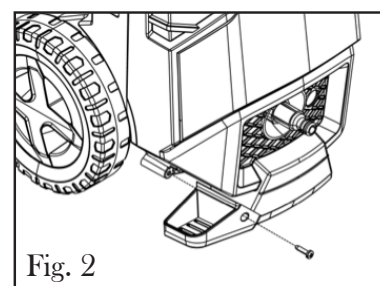

Fig. 2
2. Slide the gun stock in place and tighten it with the 4.8 mm x 12 mm screw using a Phillips screwdriver (Fig. 2).